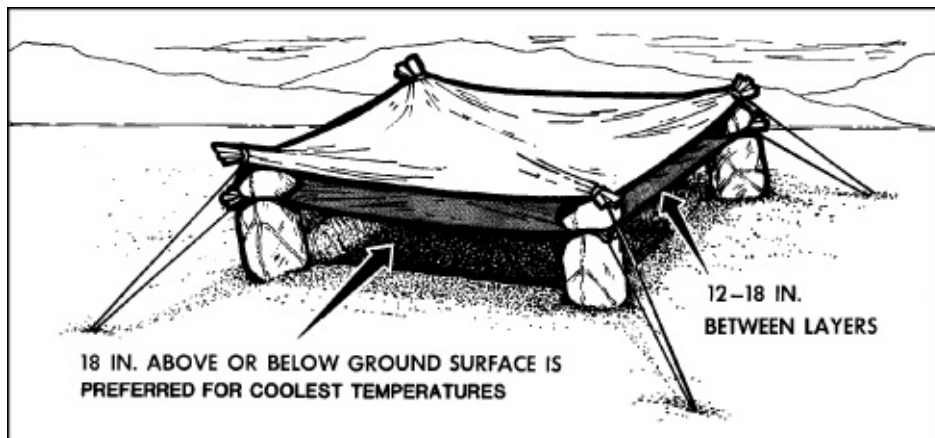

Figure 6-8. Poncho/parachute shade shelter
- (4) Shade shelter. Hot climates require a shade shelter to protect from ultraviolet rays (**Figure 6-8**).